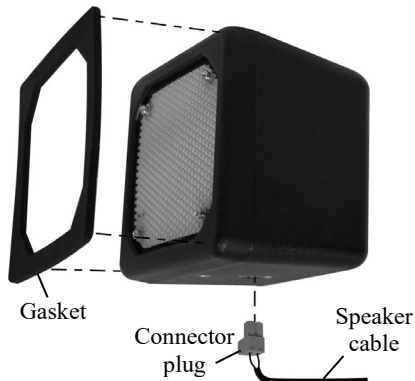

Figure 1. SP10 with gasket and cable connector plug
- Strip approximately 1 inch (25.4 mm) of insulation from the end of the speaker cable, and  $\frac{1}{4}$  inch (6.35 mm) of insulation from each of the two cable wires, but do not tin the wires. Connect the speaker cable wires to the connector plug as shown in Figure 1.
- Insert the connector plug into the connector on the speaker as shown in Figure 1.
- Peel the paper off the self-adhesive gasket, and press the adhesive side of the gasket against the front of the speaker in the position shown in Figure 1.